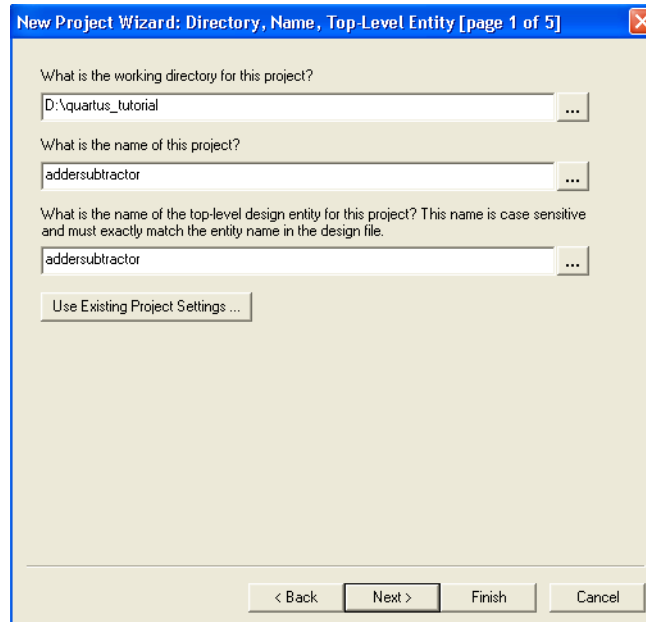
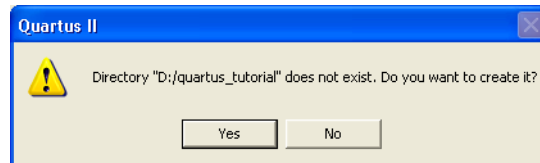
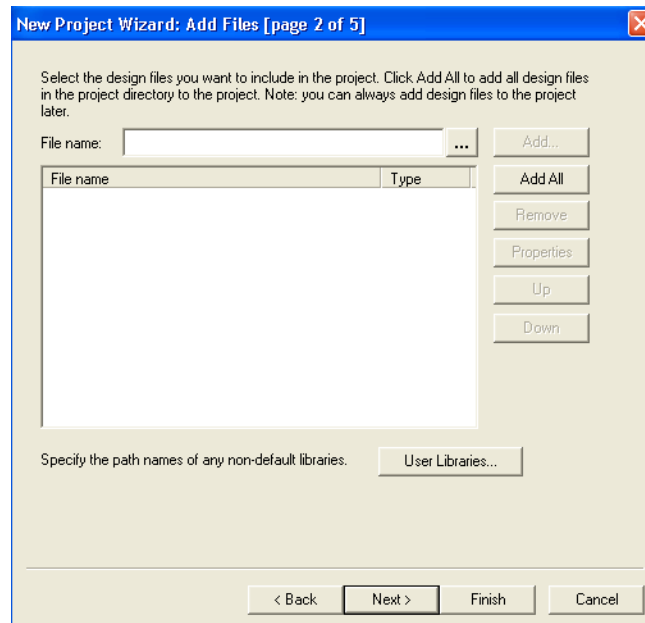

Figure 4: Creation of a new project.
Figure 5: The Quartus II software can create a new directory for the project.
Figure 6: The wizard can include user-specified design files.
1. Select **File > New Project Wizard** to reach a window that indicates the capability of this wizard. Press **Next** to get the window shown in Figure 4.
2. Set the working directory to be *quartus_tutorial*; of course, you can use a directory name of your choice. The project must have a name, which is usually the same as the top-level entity that will be included in the project. Choose *addersubtractor* as the name for both the project and the top-level entity, as shown in Figure 4. Press **Next**. Since we have not yet created the directory *quartus_tutorial*, the Quartus II software displays the pop-up box in Figure 5 asking if it should create the desired directory. Click **Yes**, which leads to the window in Figure 6.